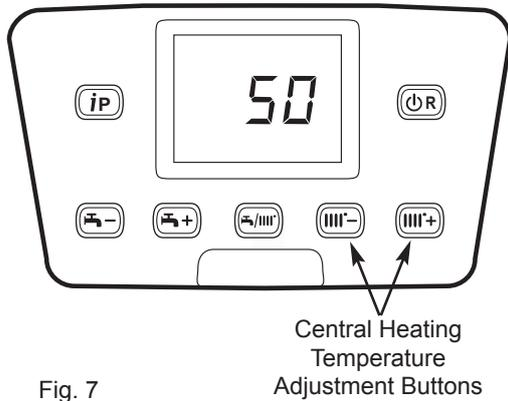

Fig. 7
6. Normally the display will show the current temperature of the water in the boiler (e.g. 41°C). As the buttons are pressed (Fig. 7) the curve identification code will be shown, from '00' to '90'.